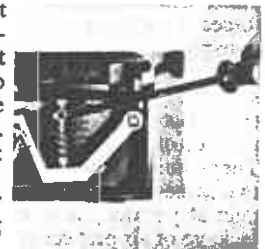

Figure 4
Please notice: Should large adjustments be required you must rearrange the position of the nut (42) relative to the top spring guide (43) in order to be able to reduce the effective length of the spring (see 2.2 Figure 4).